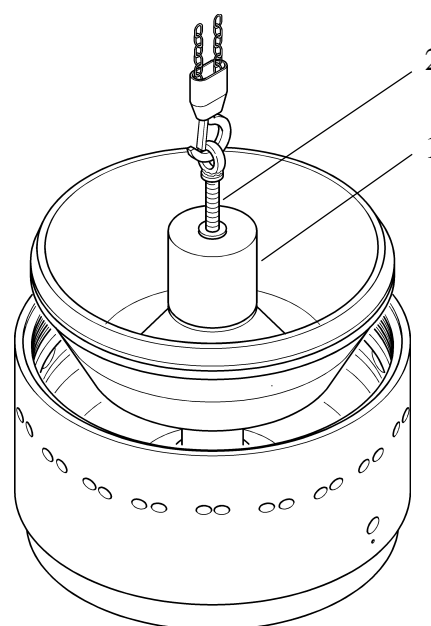

Figure 6.7
- Fasten spanner body (1) on the moving ram.
- Slightly screw threaded rod (2) until the threaded part length outside the spanner body is  $4 \div 5$  mm.
- Lift the moving ram by hand or by hoist and place it down on the bowl body (fig. 6.7).